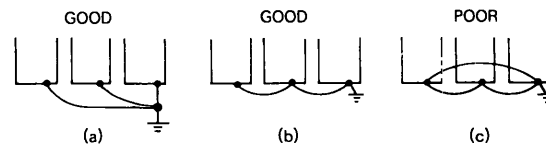

Fig 7 Grounding of Three VS-616GILN Units
- (1) Ground resistance should be 100 or less.
- (2) Never ground VS-616GILN in common with welding machines, motors, and other large-current electrical equipment, or ground pole. Run the ground lead in a separate conduit from leads for large-current electrical equipment.
- (3) Use ground lead listed in Table 17 (page 53) and make the length as short as possible.
- (4) Where several VS-616GILN units are used side by side, all the units should preferably be grounded directly to the ground poles. However connecting all the ground terminals of VS-616GILN in parallel, and ground only one of VS-616GILN to the ground pole is also permissible (Fig. 7). However, do not form a loop with the ground leads.